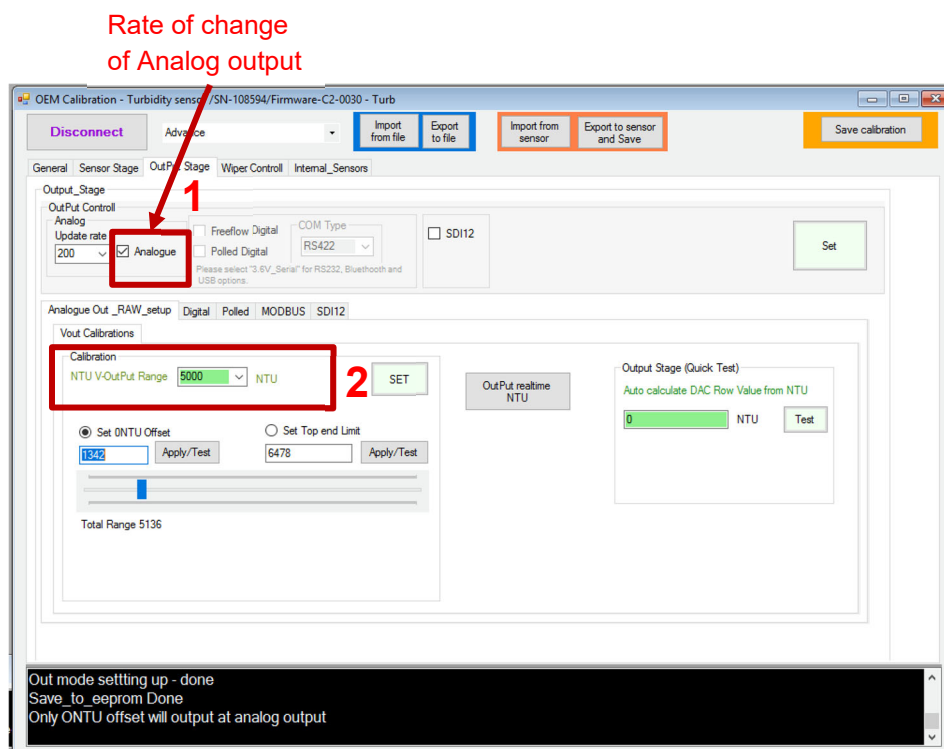

Figure 7.1: Selection of the Analog option
1. Enabling Analog option (Figure 7.1: #1).
2. Scaling of the Analog output (Figure 7.1: #1).